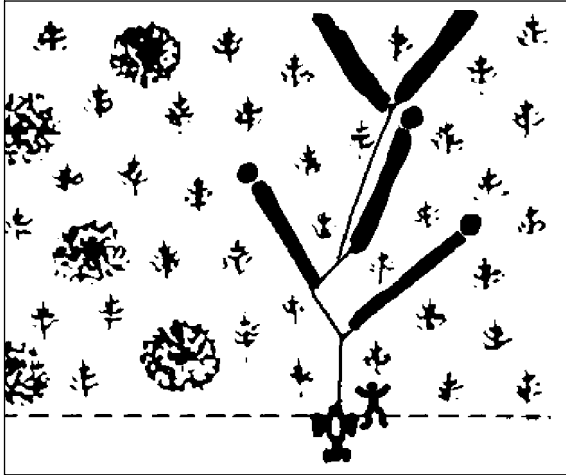

Fig. 5.
2. The safest place for the operator is at the back left side of the winch, allowing good visibility. See fig. 5. Take care that there is no one in the working area.
- Always position the tractor on a flat ground in line with the direction of the pull (see fig. 5). Avoid working in steep terrain. Ensure nothing is blocking the path of trees.